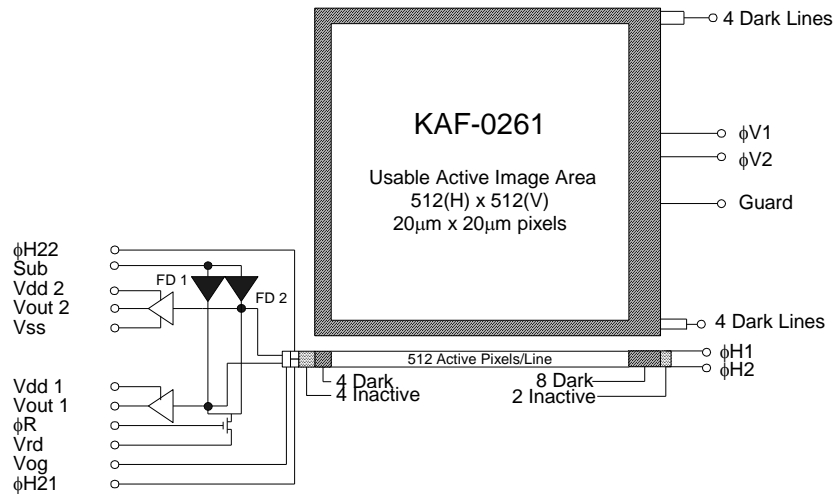

Figure 1: Block Diagram
The KAF-0261 consists of one vertical (parallel) CCD shift register, one horizontal (serial) CCD shift register and a selectable high or low gain output amplifier (See Figure 1). Both registers incorporate two-phase buried channel CCD technology. The vertical register consists of 20 µm x 20 µm photocapacitor sensing elements (pixels) that also serves as the transport mechanism. The pixels are arranged in a 512 (H) x 512 (V) array; an additional 12 columns (4 at the left and 8 at the right) and 8 rows (4 each at top and bottom) of non-imaging pixels are added as dark reference. There is no storage array, so this device must be synchronized with strobe illumination or shuttered during readout.